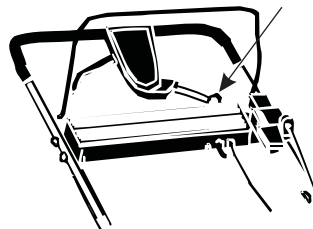

Figure 4-(Electric Start Units Only)
The ignition switch is located on the left side of the handle panel. It is used for starting only. See Figure 4.
- Turn the ignition key to the right to start the engine. Release the key after engine starts. See Figure 4.